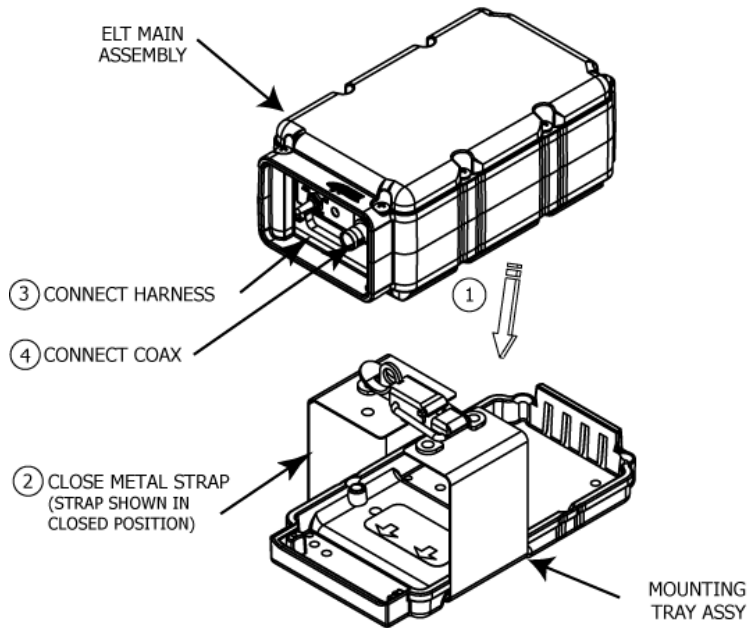

Figure 26 ELT Installation Sequence
- 1) See Figure 26 ELT Installation Sequence.